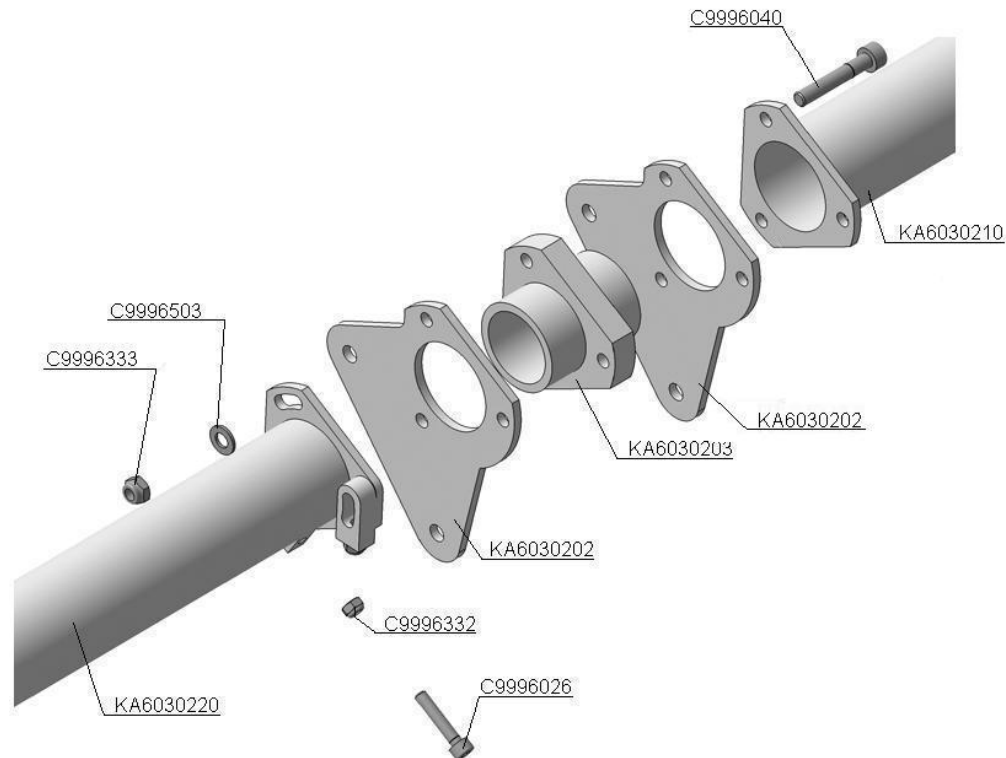

Fig. 7
- 1) Unscrew the lock-nut C9996332 (Self-locking nut DIN 985-M4, regular) by a 7 wrench towards the head of the bolt and release the bolts C9996026 (Bolt DIN 912 M4x 20-8.8), Fig. 7.
- 2) Unscrew the bolts C9996026 (Bolt DIN 912 M4x20-8.8) 5 turns from the flange of the flap rod KA6030220 (Transverse rod tube, left) by a 3 hex-nut wrench. Fig. 7.
- 3) Unscrew the nuts C9996333 (Self-locking nut DIN 985-M5, regular) from the bolts C9996042 (Bolt DIN 912 M5x45-8.8) by an 8 wrench and 4 hex-nut wrench. Fig. 7.
(Transverse rod tube, left) by 3 hex-nut wrench up to bolts C9996042 (Bolt DIN 912 M5x45-8.8). Fig. 7.